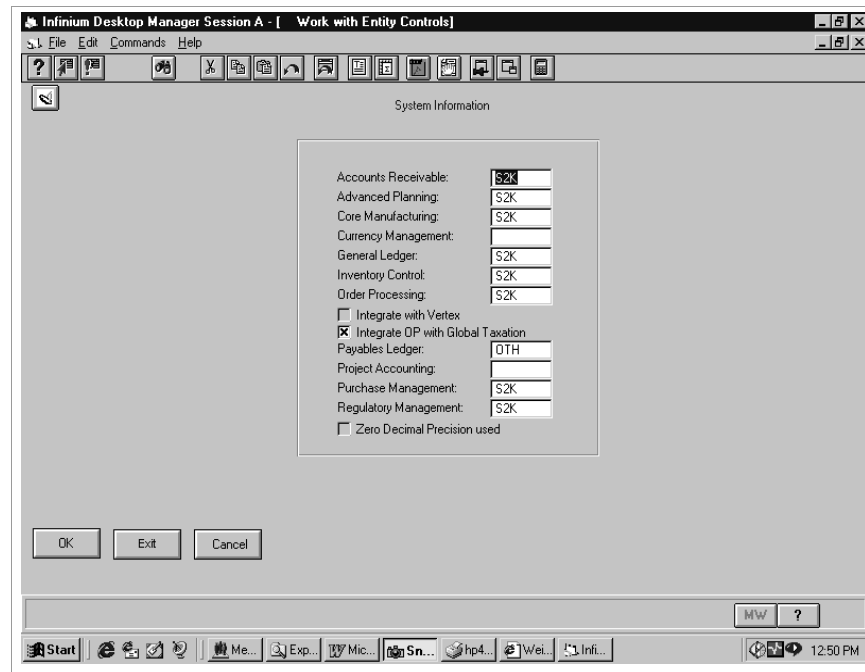

Figure 4-6: Work with Entity Controls System Information screen
- 10 Press Enter. The system updates the costing information and continues to the screen shown in Figure 4-6.